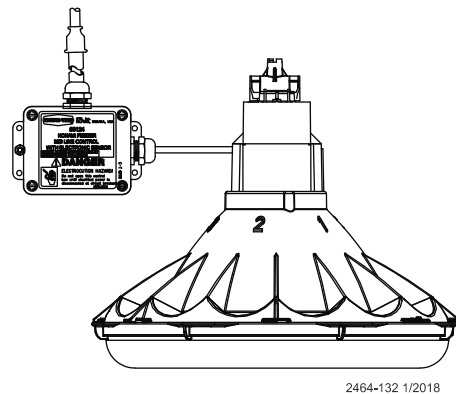

Figure 44. Installing the (ES) Mid Line Control
- Assemble the Mid-Line Control to the Feeder Tube as shown in **Figure 44**.
- Attach the Switch Box Assembly to the Feeder Tube with Hose Clamps as shown in **Figure 44**.